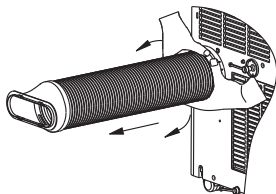

Fig.26
- Unscrew the exhaust hose to the right or left and pull out for uninstallation(Fig.26), keep it safety.